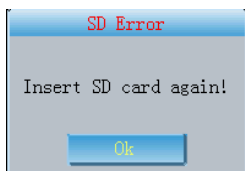

Fig. 7-31
(3) when system enters Archive Management, the prompt as Fig.7-31 appears, please insert SD card again.